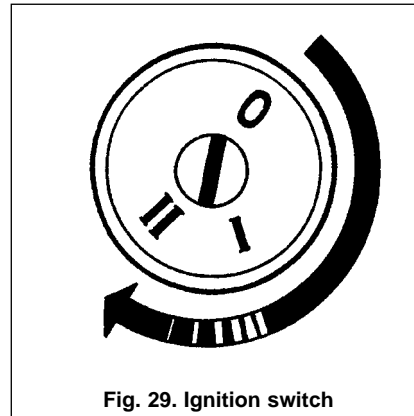

Fig. 29. Ignition switch
2. During this period place a black key fob (1) within 13 mm from the key reader. The key reader LED should illuminate for 2 seconds and then go off, indicating that the immobilizer has read and accepted the key fob code. After that the immobilizer module will send a signal to the ECM enabling the fuel injection pulses.
To start the engine, turn ignition key 1 (Fig. 29) from position «I» (Ignition) to position «II» (Starter—Engine Cranking).